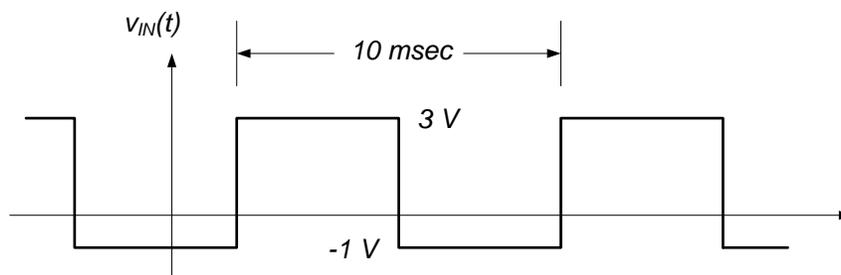
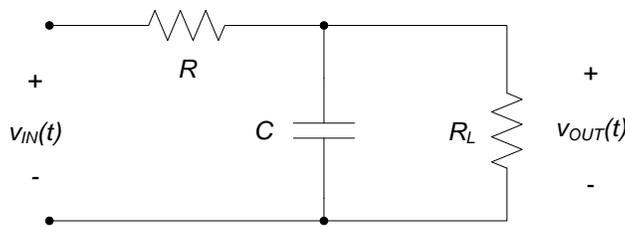

Figure 2. Input voltage signal.
Figure 3. Loaded passive RC circuit.
- i. Apply a 4V peak-to-peak square wave input with period = 10 ms (frequency = 100Hz) as shown in Fig. 2 to the circuit⁸. Display both $v_{IN}(t)$ and $v_{OUT}(t)$ on your oscilloscope window. Record the image of the oscilloscope window, showing the waveforms and save the signals as a data file for later plotting⁹.
- i. Apply a load to the RC circuit of Fig. 1 by constructing the circuit shown in Fig. 3. Use $R = R_L = 470\ \Omega$, and $C = 1\ \mu\text{F}$. Measure the output voltage across the load resistor, for the input voltage shown in Fig. 2. Record the image of the oscilloscope window, showing the waveforms and their measured amplitudes, and save the signals as a data file for later plotting.